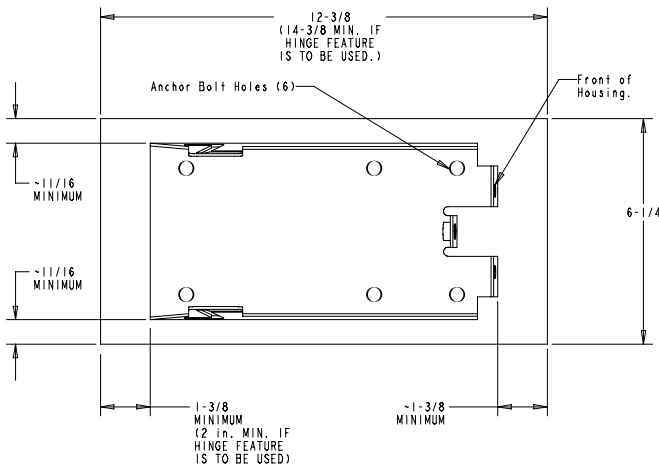

Figure 3: Positioning the Top Panel
- Position the top panel on the ceiling or wall, horizontally or vertically, depending on the installation requirements. See figure 3. A smooth flat surface is ideal for proper installation. Note the minimum space requirements shown in figure 3.